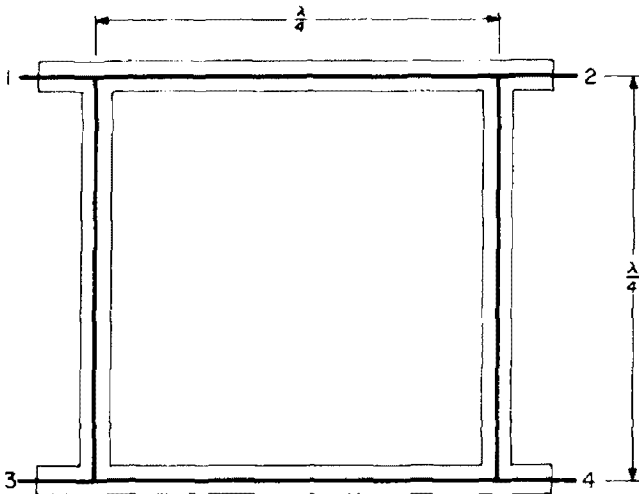

fig. 2. The branch directional coupler. This device divides power between two matched loads.
2. The branch directional coupler, fig. 2, which is a quadrature hybrid with some interesting applications for moonbounce work and ssb.